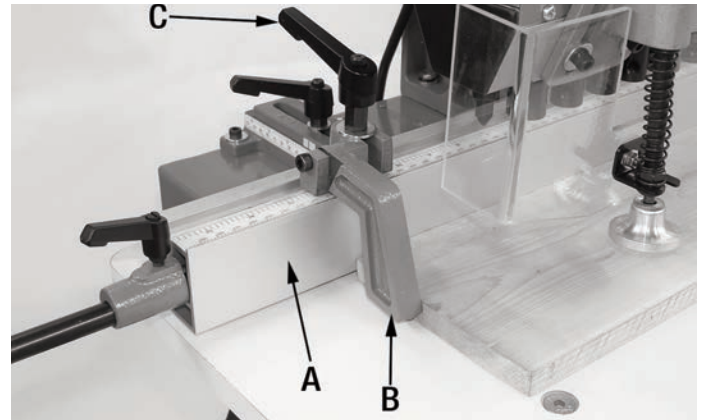

FIGURE 13
A typical line-boring operation consists of a workpiece positioned against the fence (A) Fig.13 and the fence stop (B) as shown, 13 holes are bored with a 1-1/4" (32mm) centre distance between each hole.
The fence stops (B) Fig.13 can be moved to the desired position by loosening and tightening the lock handle (C).